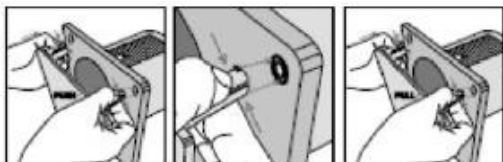

Fig. 1
- Remove the front fascia (see Fig. 1)